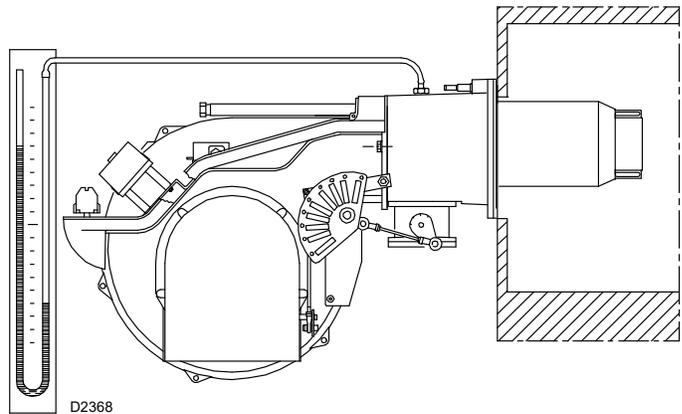

Fig. 32
- Purge the air from the gas line. Fit a U-type manometer (Fig. 32) to the gas pressure test point on the sleeve. The manometer readings are used to calculate the MAX. burner power using the .